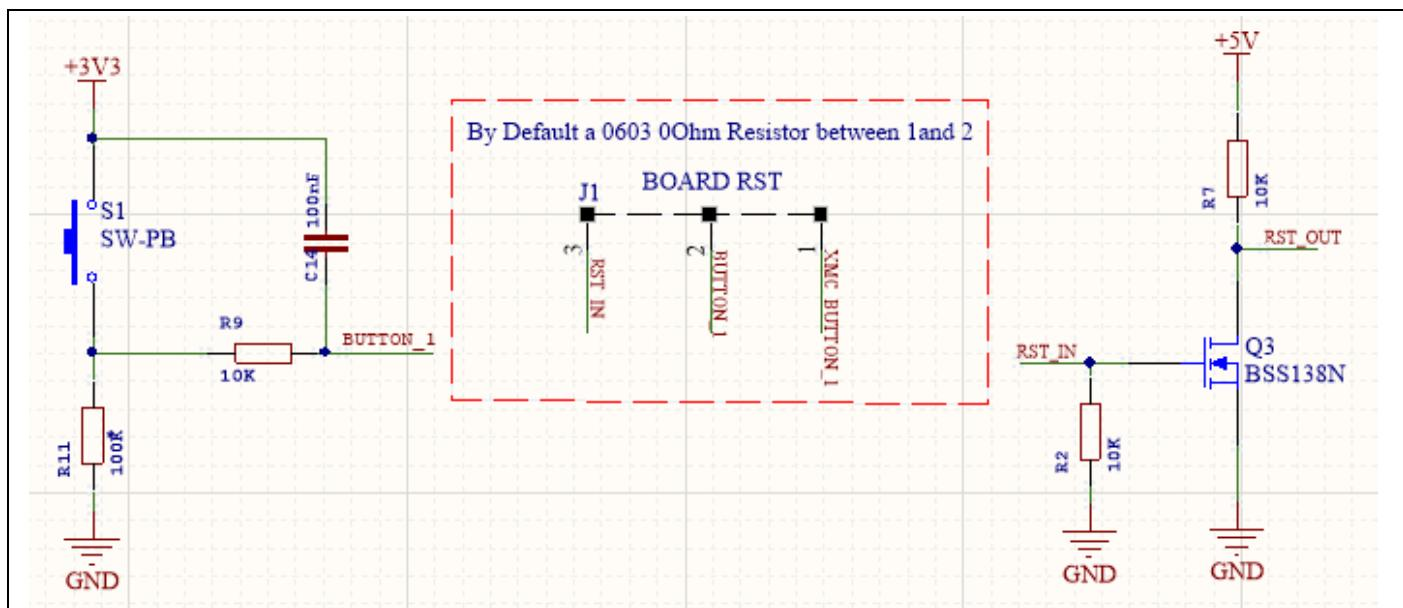

Figure 4 Reset
- Configure button S1 to serve as a Reset Button using the IFX1763LD V33 enable capability. To enable this future J1 must be changed to position 3-2 as shown in Figure 4.